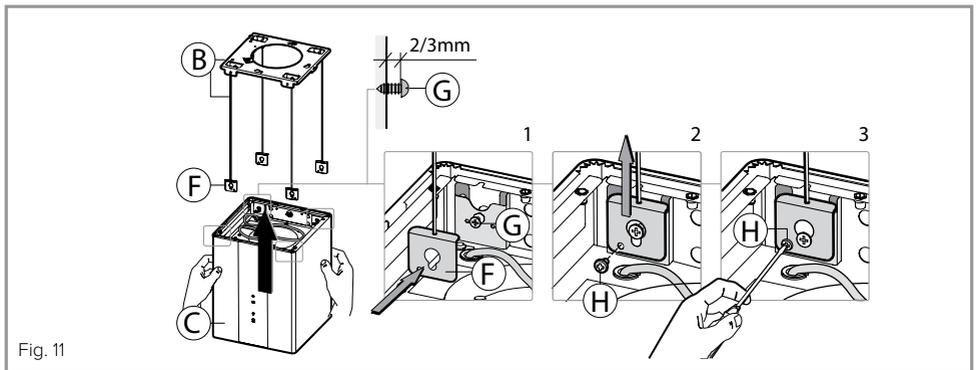

Fig. 11
7. Loosen the body fixing screws (G in Fig 11) by approximately 3mm and hook the cable fixing bracket into place. Lift the bracket into position and tighten the screw to lock the bracket in position, then insert an additional screw (H) for security.